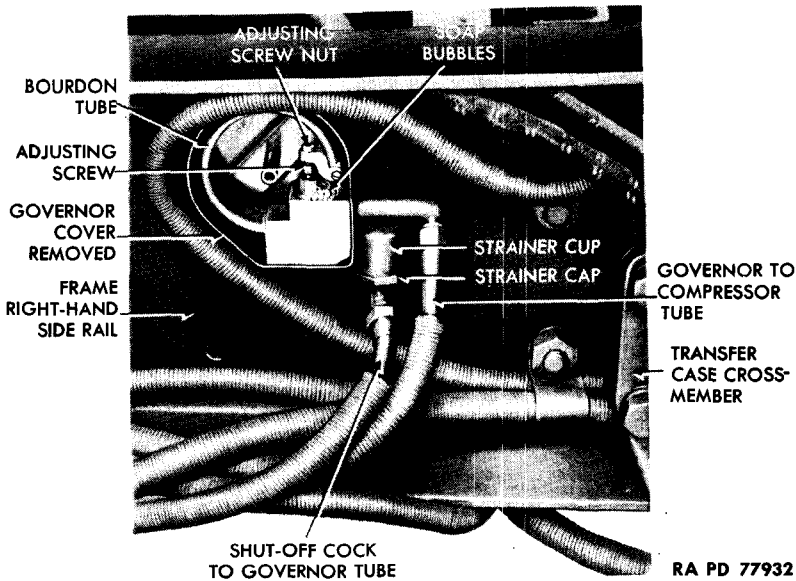

Figure 63 — Testing Air Pressure Regulator Governor With Cover Removed
b. Maintenance and Adjustment (fig. 63). Close shut-off cock on bracket in front of reservoir tanks, and remove shut-off cock to governor tube from governor. Screw strainer cap from strainer cup, and pull strainer from cup. Wash strainer in gasoline, then install strainer and strainer cup. Connect tube to governor, and open shut-off cock. Start engine, and observe pressures at which governor cuts out and in. If it does not cut in at 85 pounds and cut out at approximately 105 pounds, remove case cover, loosen adjusting screw nut, and turn adjusting screw clockwise to raise cut-in pressure or counterclockwise to lower cut-in pressure. Tighten adjusting screw nut, and install case cover. Allow governor to cut out, and check upper valve for leakage by covering exhaust port with soapsuds; then allow governor to cut in, and test lower port in same manner. Leakage of a 3-inch bubble in 3 seconds is permissible. In case of excessive leakage, replace governor (subpar. d, below). Remove case cover, and lubricate valve stem with a few drops of penetrating oil.